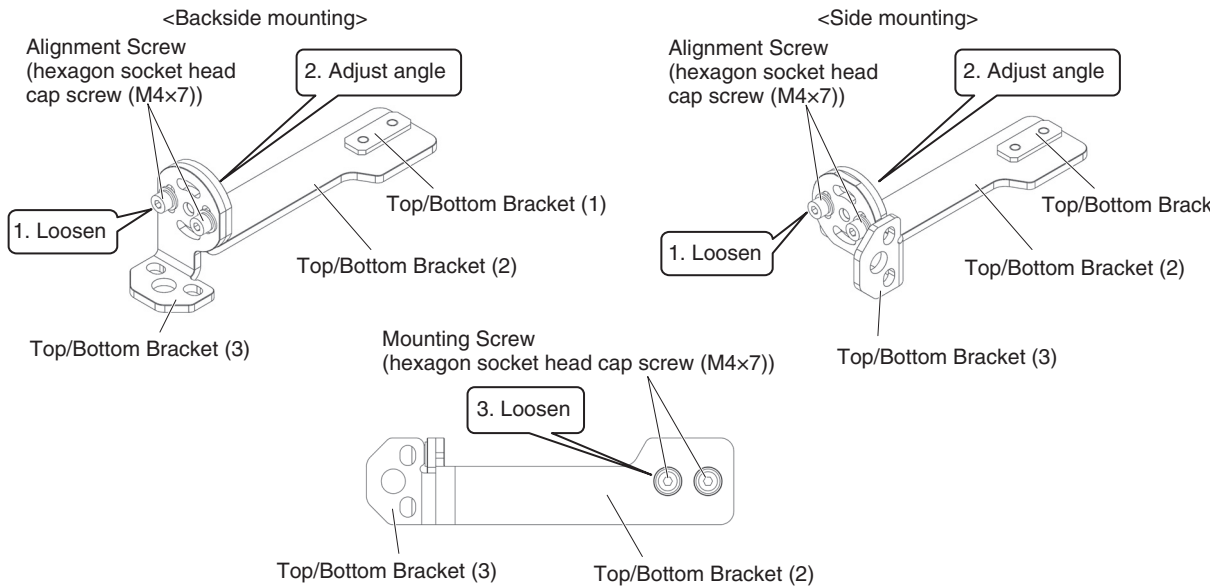

Fig. 1
1. Loosen the Alignment Screws (hexagon socket head cap screw (M4×7)) of the Top/Bottom Bracket (3) and change the angle of the Top/Bottom Bracket (3) according to its mounting direction. Then loosen the Mounting Screws (low head hexagon socket head cap screw (M4×7)) of Top/Bottom Bracket (2). (Fig. 1)